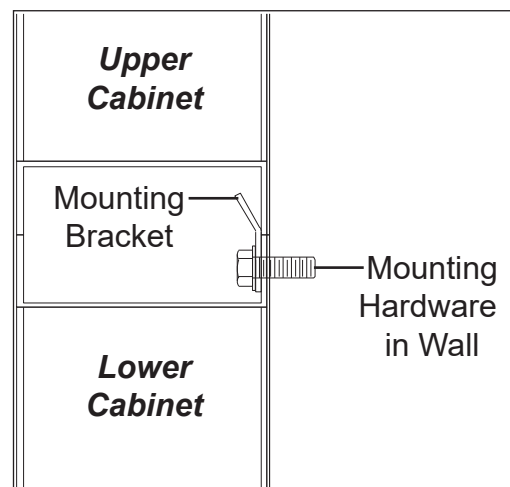

Figure 8: Upper Cabinet Placement
5. Remove the eyebolts from the bottom cabinets, and use them to lift the upper cabinets into place. The bottom rear flanges of upper cabinets will not be mounted to the wall; instead, they will rest inside the mounting brackets of the cabinets in the row below. Refer to **Figure 8**.